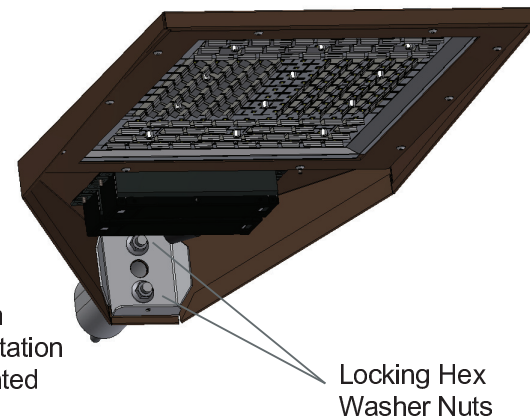

FIGURE 8
4. Proceed to Figure 8 below, ASSEMBLY OF LUMINAIRE TO POLE AND EXTENSION ARMS.
5. Proceed to Figure 8 below, ASSEMBLY OF LUMINAIRE TO POLE, EXTENSION ARMS.
ASSEMBLY OF LUMINAIRE TO POLE AND EXTENSION ARMS - Figure 8
2. Position luminaire over studs. Take care to not pinch luminaire wires. See Figure 8.